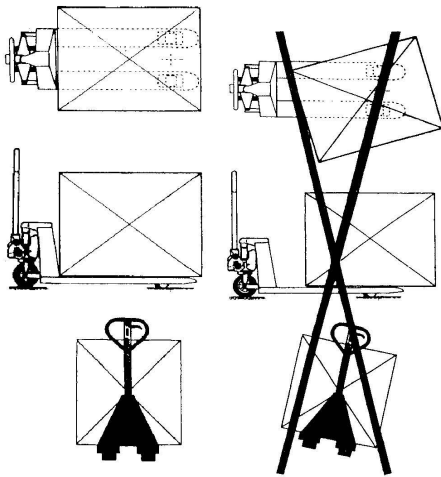

Figure 6
5.2 The cargo loading type is shown as fig 6